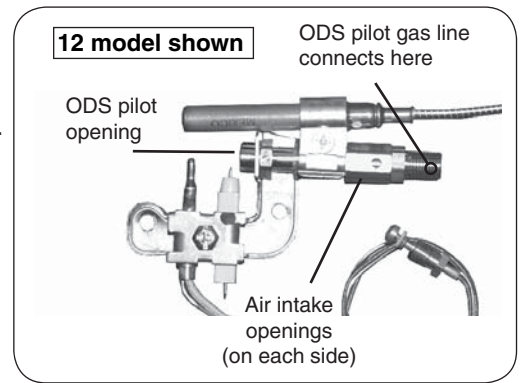

Fig. 26-1
1. Turn the burner system to the **OFF** position and allow it to cool. Inspect the ODS pilot area (see Fig. 26-1) for any visual contamination or debris (usually lint, hair, spider webs, or small insects). Lightly brush off all external surfaces while vacuuming loosened debris from the ODS pilot opening. **Be careful not to brush any foreign material into the ODS pilot opening.**
2. Clean out the air intake openings (see Fig. 26-1) by lightly brushing around the openings while vacuuming.
4. If the ODS pilot flame does not burn as indicated in the instructions, extinguish the ODS pilot by turning the valve to the full **OFF** position. Using a compressed air duster, insert the flexible nozzle through the air intake openings, ensuring that the nozzle is pointed toward the ODS pilot opening (see Fig. 26-1). Blow air through the intake openings to clear out any debris that may be in the system.
5. Relight the ODS pilot and inspect it to be sure it is burning as shown in the instructions. If not, extinguish the ODS pilot and **turn off the gas supply to the burner system.** Using an adjustable or a 1/4" wrench, disconnect the ODS pilot gas line (see Fig. 26-1) from the valve.